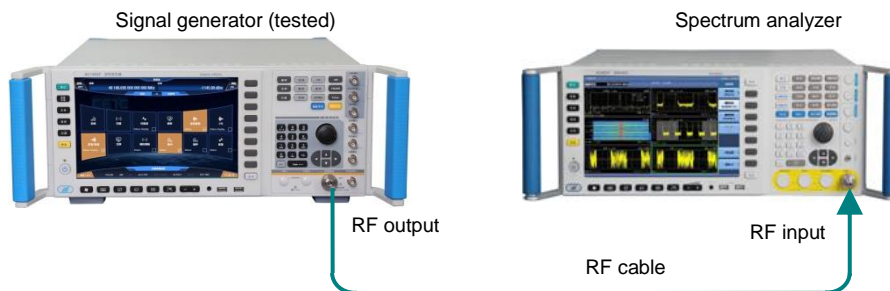

Figure 8.8 Pulse Modulation Rise/Fall Test
**Step 2. Connect the device as shown in Figure 8.8.**